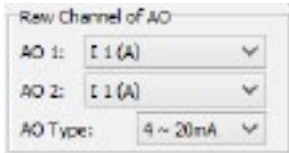

Figure 3.9
Select current (A) in Raw Channel and 4 – 20 mA as type. (See figure 3.9)